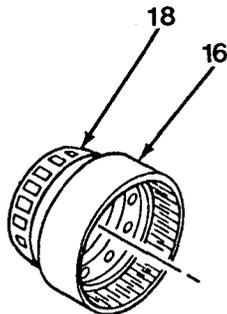

Figure 12-6
3. If removed, install two bearing cups (18) and (20).
4. Install hub seal (19) into hub (17) against shoulder.
5. If removed, heat bearing cone (18) to approximately 176 degrees F (80 degrees C) and install on ring gear carrier (16, Figure 12-6).